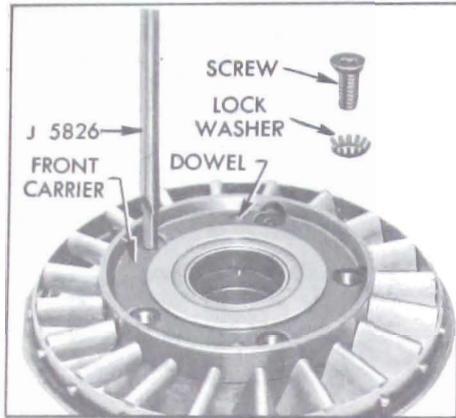

Figure 5-50—Removing Front Carrier Screws
3. Use screwdriver J-5826 to remove the stator blade front carrier screws and lock washers, then remove front carrier which is also held to rear carrier by two dowels. See Figure 5-50.